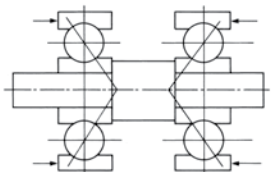
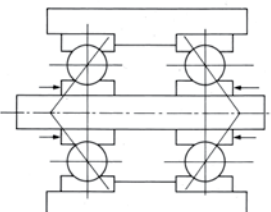

Figure 2-18
Figure 2-19
The preload can be applied in two directions: Duplex Face to Face (DF) (Figure 2-18) and duplex Back to Back (DB) (Figure 2-19). The stiffness is higher in DB.